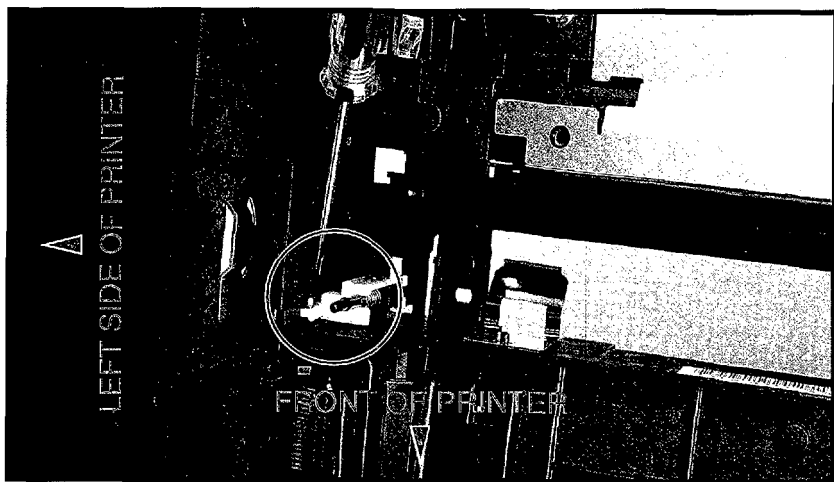

Figure 6-48 Removing the Top Cover Switch (Plunger Assembly)
2. Pry outward on the tab and slide the Top Door Switch out of the printer (Figure 6-48).